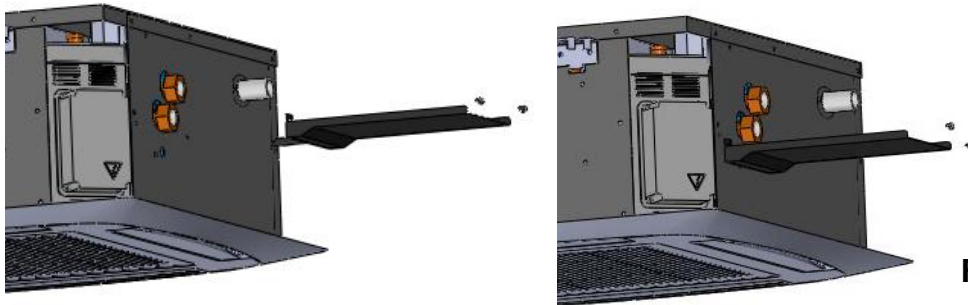

Fig. 21
- Align the two (2) screw holes in the fixing plate to the two (2) holes in the external drain pan. (Fig. 21)